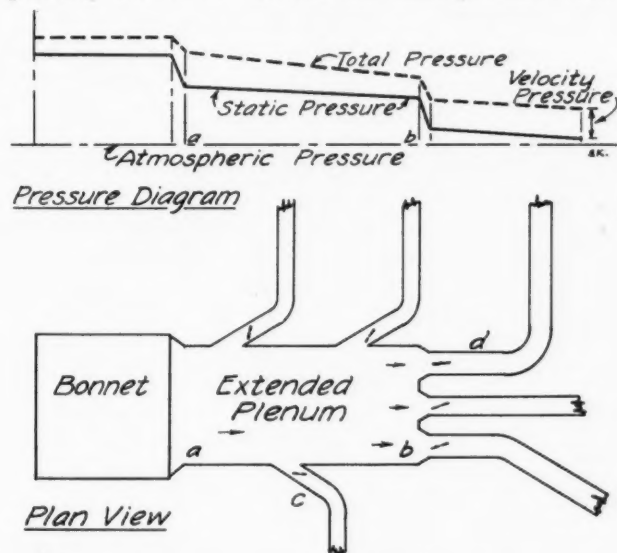

Fig. 2—Extended plenum duct system with simplified pressure diagram.
Sometimes the intake is not in the best position because of appearance. In the installation shown in Fig. 2 it was decided to place the intake below grade with a grille in the sidewalk of an alley. It was known that this would cause heavy dust conditions, but no other arrangement seemed suitable. The amount of dirt, soot, fumes from automobiles, cigarette stubs and other refuse which has entered the intake has been enormous. A fine mesh screen was placed at the entrance, the areaway has been swept clean every other day but after five years the primary heater coils have deteriorated so much from the unusual conditions that they must be replaced. When this is done, it is also proposed to elevate the intake as shown.
In view of the success attending this type of plenum chamber construction, it is not surprising that some installers have extended the idea still further. A diagrammatic plan view of the "extended plenum" duct system is shown in Fig. 2. It may be noted that instead of providing for a gradual reduction in the cross sectional area of the main trunk, the trunk is made of uniform size for some distance away from the bonnet. Since a greater quantity of air passes point (a) than point (b), the air velocity at point (a) must also be greater than that at point (b). In other words, the air velocity in the extended plenum will not be uniform and will be less at the outlet than at the inlet. Hence, the velocity pressure in the duct will tend to become smaller as the air moves down the extended plenum and part of the decrease will result in an increase in the static pressure. That is, the regain in the static pressure will result in a more uniform static pressure in all parts of the extended plenum. This is shown in the pressure diagram in Fig. 2. In fact, whatever success has been attained with this method of installation is probably due to the fact that the static pressure avail-
4. Any connection from the trunk duct to the bonnet (point a in Fig. 2) should preferably be of the tapered transition type in order to minimize the entrance losses that occur when the air flows from the bonnet into the extended plenum. It should be noted that in the case of an abrupt connection the relatively large losses at the entry may more than offset any reduction in the frictional resistance brought about by the use of the extended plenum.
5. This entry loss may also be of some significance in the case of the connections from the extended plenum to the individual branches. If, for example, duct (c) in Fig. 2 is very short, the combined frictional loss consisting of the:
If, for example, duct (c) in Fig. 2 should be the longest duct in the given system, the use of an abrupt connection from the trunk duct to the branch duct merely superimposes an additional and unnecessary resistance that requires an increased power consumption by the fan. Hence, as a general practice, the use of sharp, right-angled connections without transitions or turning vanes is not recommended. Such connections should be allowed only when the limiting conditions of frictional resistance are well recognized and accounted for. Otherwise, the home-owner is penalized during the entire life of the heating system for a frictional loss that could be easily avoided.